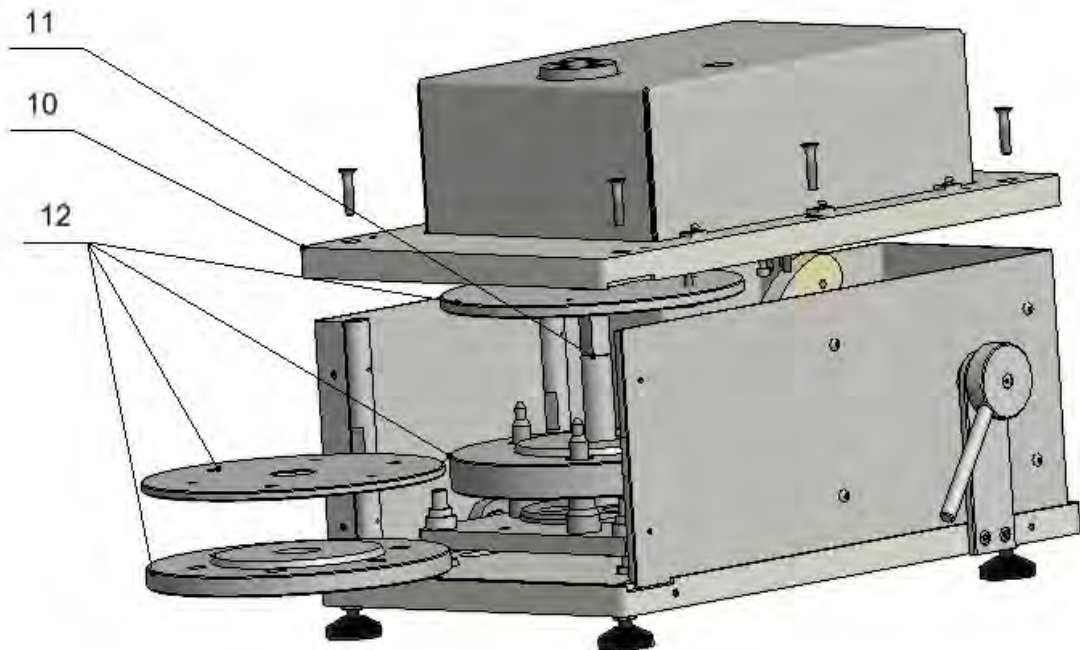

Fig.4
8. Paying attention so as not to damage wires, lift board (10) together with the mechanism. Use space between board (10) and connector (11) for assembling ballast weights (12). (Fig. 4)